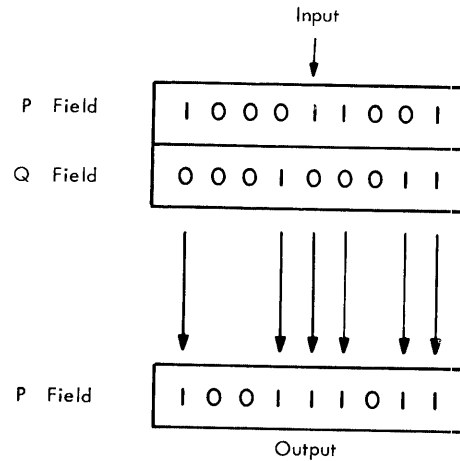

Figure 66. OR Logic
*Description.* The OR logic consists of two inputs and a resulting output based upon the presence or absence of input bits as shown in Figure 66. The OR logic provides an output bit if either one of the inputs contains a bit.